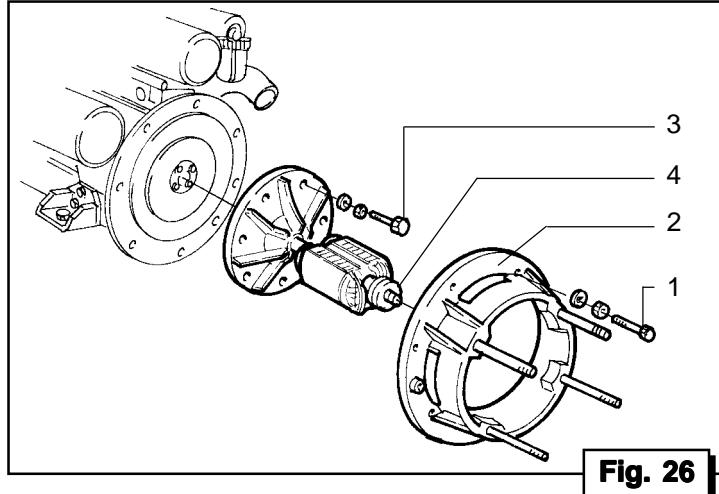

Fig. 26
- Togliere le viti (Fig. 26, Rif. 1) e rimuovere il coperchio alternatore lato motore (Fig. 26, Rif. 2).
- Togliere le viti (Fig. 26, Rif. 3) e rimuovere il rotore (Fig. 26, Rif. 4).
- Remove the screws (Fig. 26, Ref. 1) and the alternator cover (Fig. 26, Ref. 2) on the engine side.
- Remove the screws (Fig. 26, Ref. 3) and the rotor (Fig. 26, Ref. 4).